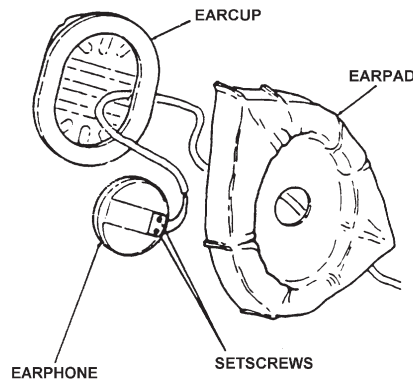

Figure 3-3. Earphones Contacts Inserted into Earphones
5. Insert earphone contacts into earphones as shown in Figure 3-3, and tighten setscrews.